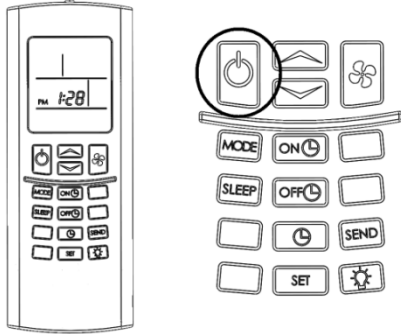

Figure 17 - Turn unit on
- Using the remote control (Item #6) press the ON/OFF button. Figure 17. Each command from the remote control should be answered by a 'beep' from the receiver in the plenum.
- Turn unit ON (Figure 25– Button #1) (Figure 17)